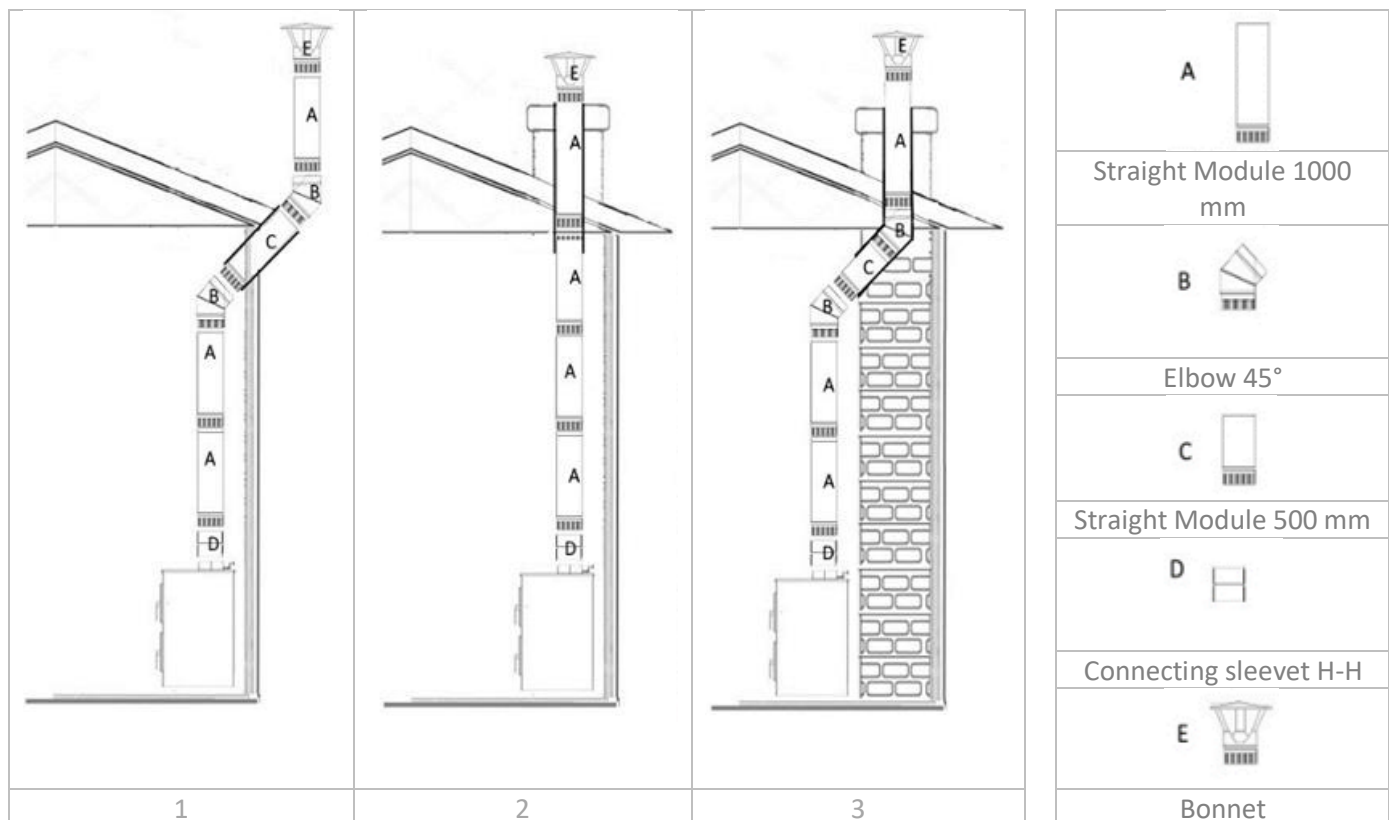

Figure 2
3. **VERTICAL SECTION (A).** The total length of the vertical pipe required to reach the roof for natural draught (flue gas depression) can vary from installation to installation, depending on various factors, but generally ranges from approximately 4 m to 6 m. However, optimal performance is guaranteed with a minimum vacuum of approximately  $\pm 15$  Pa (pascals).
4. **BENDS (B).** If bends are required (see drawings 1 and 2 in Figure 2), the ducts will be connected using elbows. These may be up to  $45^\circ$  and must not be narrowed. The following must also be considered:
5. **HORIZONTAL SECTION (C).** The connecting duct or horizontal section of the chimney must be designed with the minimum possible length and avoiding changes in direction and section as much as possible. The following must be taken into account accordingly:
6. **UNION SLEEVE (D).** For the correct connection of the vertical duct with the flue outlet collar m (male) of the cooker, a socket h/h (female/female) is required so that the end m (male end of the vertical duct faces downwards).
7. **CHIMNEY CAP (E).** For proper smoke evacuation and to prevent wind influences, certain minimum distances from the chimney cap are required. See the following figure: